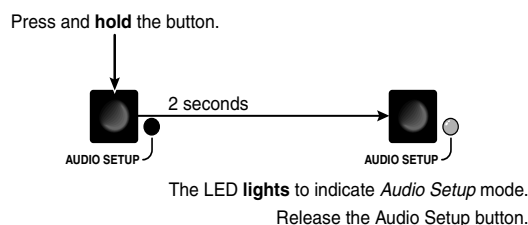

Figure 3-35 — Select Audio Setup mode
1. Press and **hold** the Audio Setup (I/O) button for approximately 2 seconds until the Audio Setup LED lights (figure 3-35).